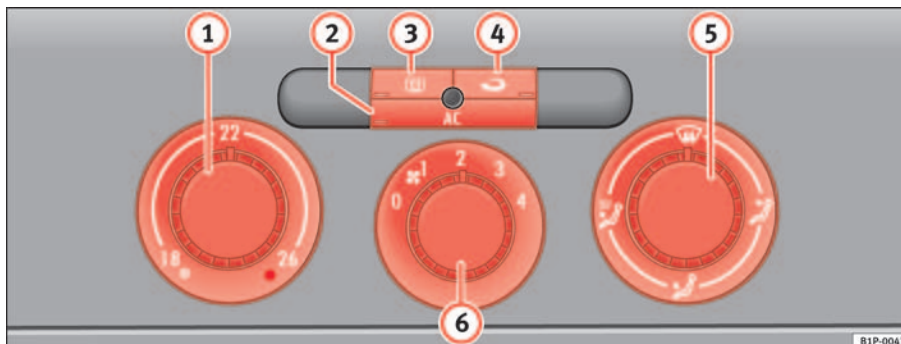

Fig. 108 On the dash panel: Climatic controls
- Turn the temperature selector ⇒ fig. 108 ① clockwise to select the required temperature.